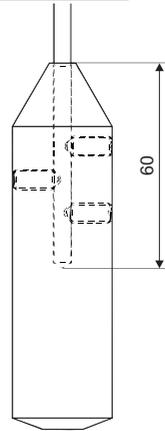

Fig. 16: Drawing of the cable electrode ballast
1. At the cable electrode, it is necessary to loosen three fastening screws on the ballast and to pull out the end of the cable, see fig. 16.